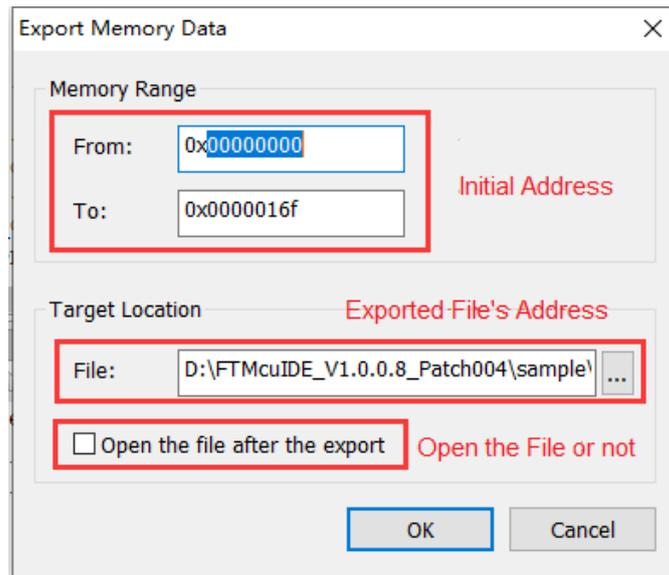

Figure 1-63
**Export Memory Data:** Export the data of the currently selected memory space, as shown in Figure 1-63. First, enter the start and end address of the exported memory space, then select the address of the exported file, and then select whether to open the file after export. If selected, open the file after the end of the exported file, and finally click OK to finish exporting the memory data.